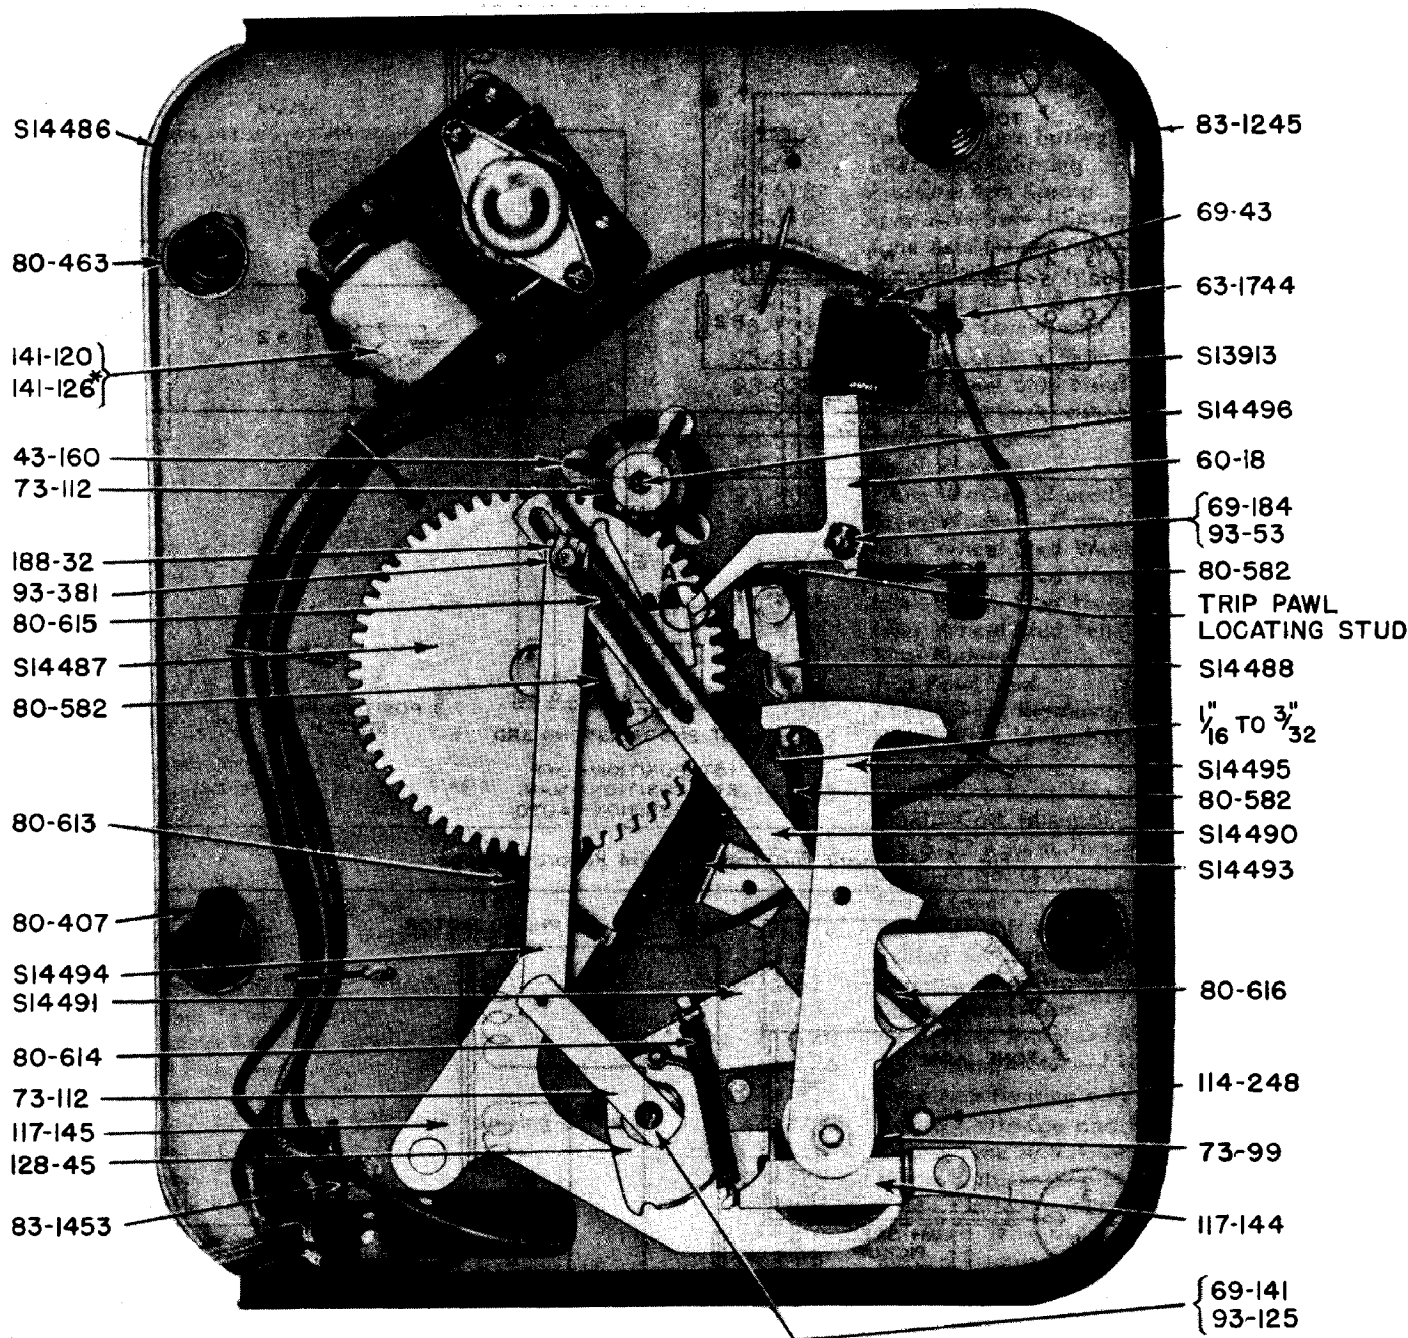

Fig. 4. Bottom View.
- Check the pawl lever positioning stud. The tip of the pawl must be in approximately the same position in relation to the gear pawl tooth lever as indicated at "A" in Fig. 4. If the position is not the same as indicated, the positioning stud can be bent slightly.